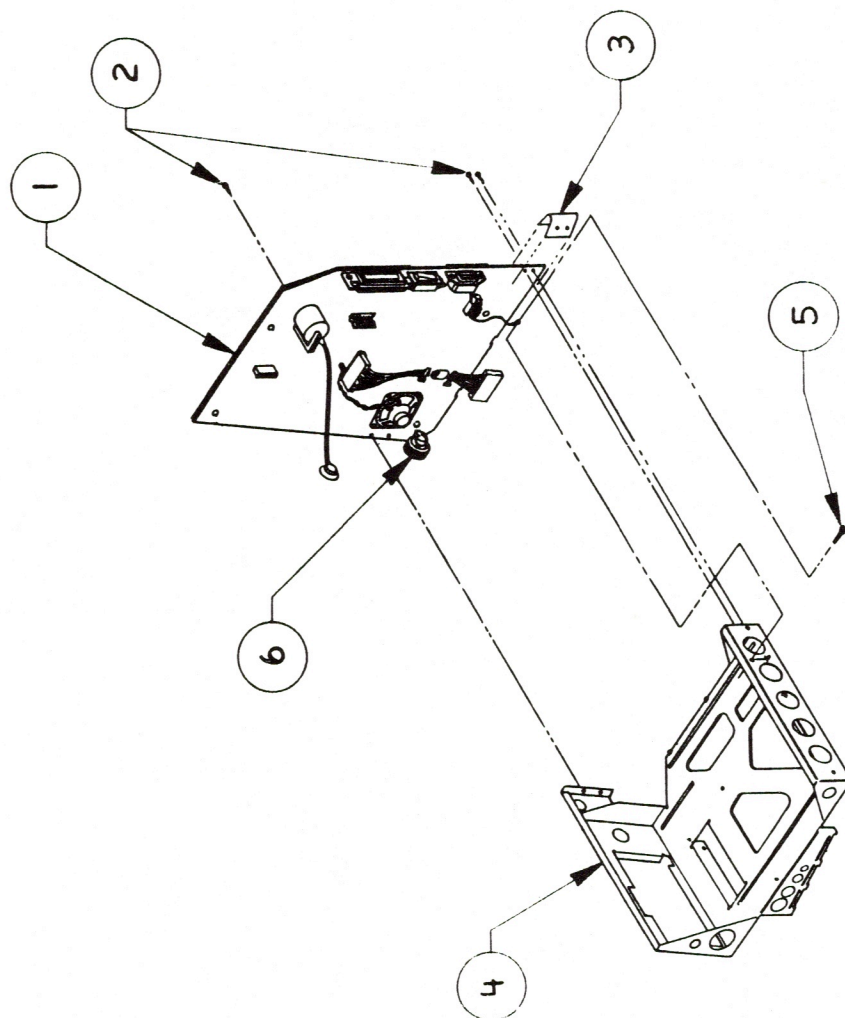

FIGURE 2
- 7.5 Macintosh/Macintosh Plus Chassis & Power Supply (Figure 2)
SUPPLY (Figure 2)**